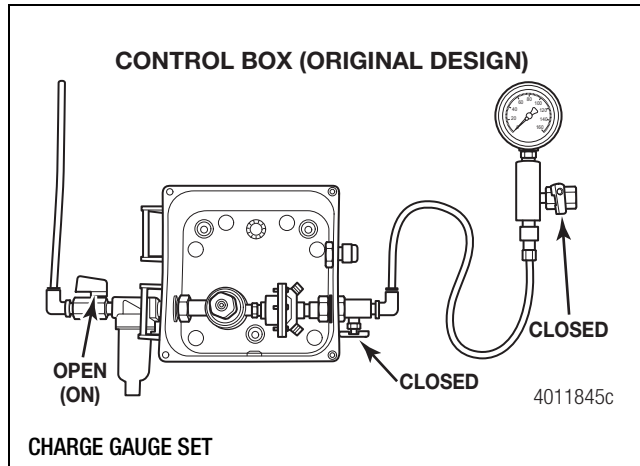
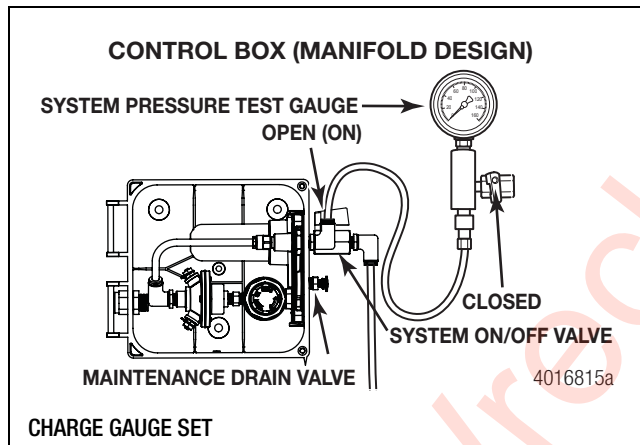

Figure 3.20
Figure 3.21
- B. Charge the gauge set as follows. Figure 3.20 and Figure 3.21.